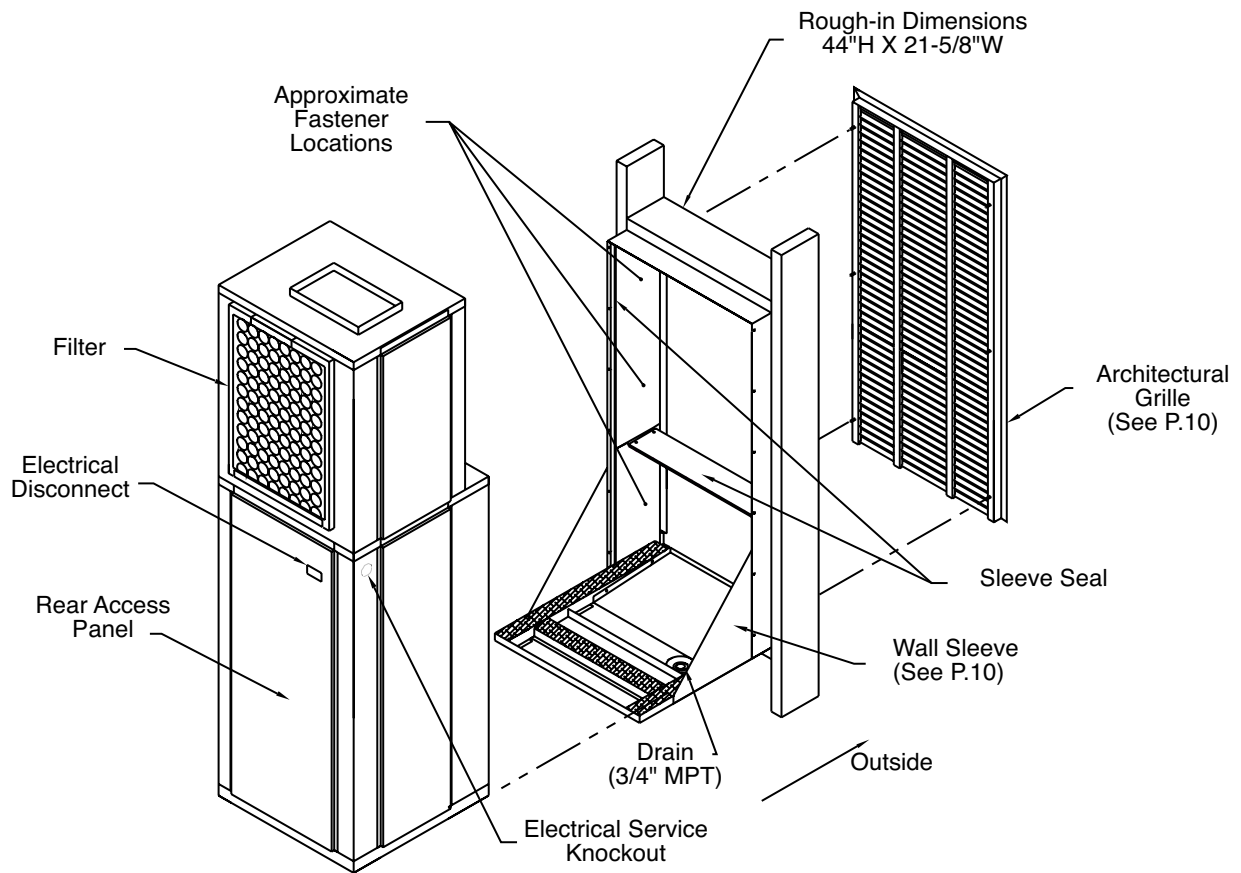

Figure 1 - General Assembly for standard sleeve and Grill
5. **Wall Sleeve** – (See Figures 1,1A,1B, 4 and 5) Rear or side install wall sleeves are provided for installation during rough-in and, when ready, the **SPXC** unit is simply slid into the sleeve and the ductwork and electrical connected. The sleeve is a weight-bearing sleeve that supports the entire weight of the **SPXC** unit and provides a weather tight seal against wind and water infiltration. A 3/4" male NPT fitting is provided in the bottom of the sleeve for field connection to a condensate riser. Four wall sleeve depths are available to accommodate wall thickness from 5" to 20". Each sleeve includes a factory installed "weather guard" to cover the sleeve opening during construction.